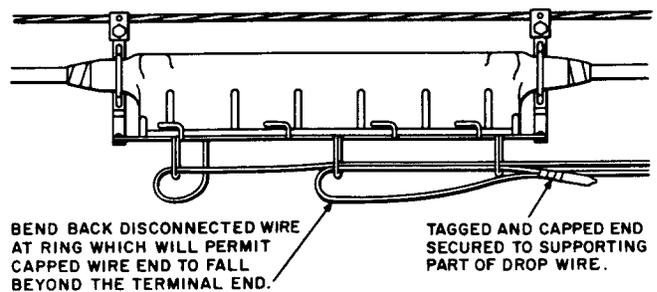

Fig. 5—49-Type Terminal, Strand Mounted
- (1) Pull free end of wire out of the terminal.
- (2) Lay wire back on itself at the wiring ring, which will allow the free end to fall outside the terminal wiring rings.
- (3) Tag and cap the wire end and secure it to the supporting part of the wire as shown in Fig. 5.